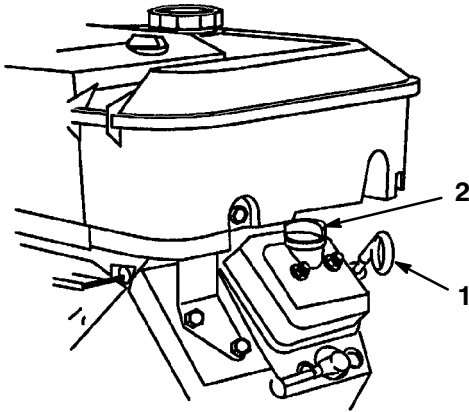

Figure 2
2. Remove dipstick and wipe it with a clean rag (Fig. 2). Insert dipstick into tube and make sure it is seated fully. Remove dipstick and check level of oil.
3. If oil level is low, remove filler cap from valve cover (Fig. 2) and pour oil into opening until the oil level is up to the “FULL” mark on the dipstick; refer to Engine Oil, page 20, for proper oil type and viscosity. Add the oil slowly and check the level often during this process. **Do not overfill.**